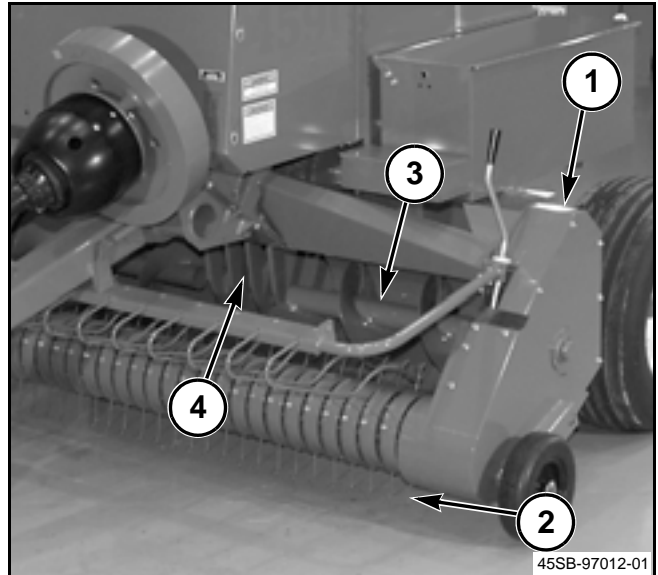

FIG. 8
FIG. 8: Continuous flow, straight through feeding is possible with the wide, low profile pickup assembly (1). Hay from the windrow is picked up by the closely located tines (2) of the pickup assembly and moved by an auger (3) into a charge chamber (4). The in line charge chamber feeds the baling chamber from the bottom.